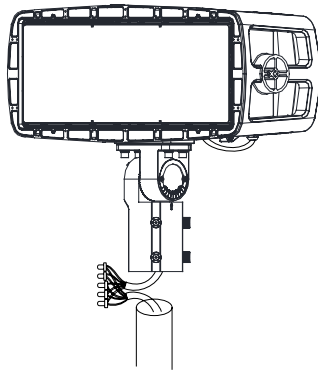

Figure 8
- Loosen the four (4) bolts on the adjustable slip fitter bracket, connect the wires correctly, and pull the wires into the poles (Figure 8).